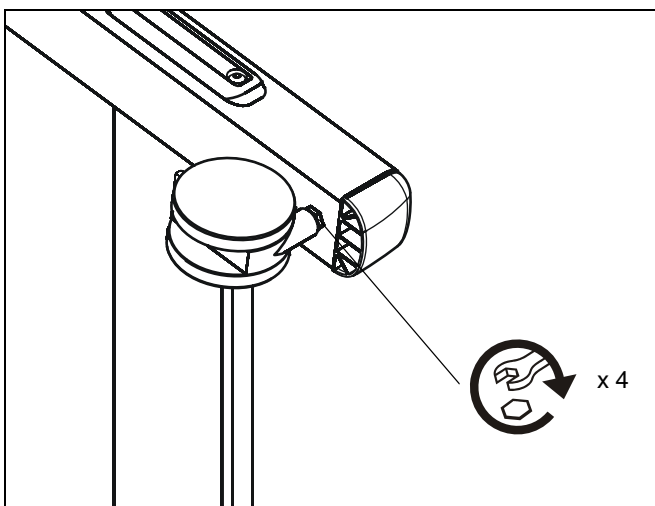

Figure 12
3. Check and tighten the hex nuts on the casters occasionally. (See Figure 12) These should be checked especially after use on uneven ground.